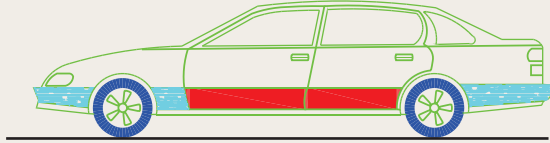

Fig. 8.23 Exercise 4
- Figure 8.23 is a front view of a car with parts hatched. Construct a similar drawing of any make of car, using hatching to emphasize the shape.